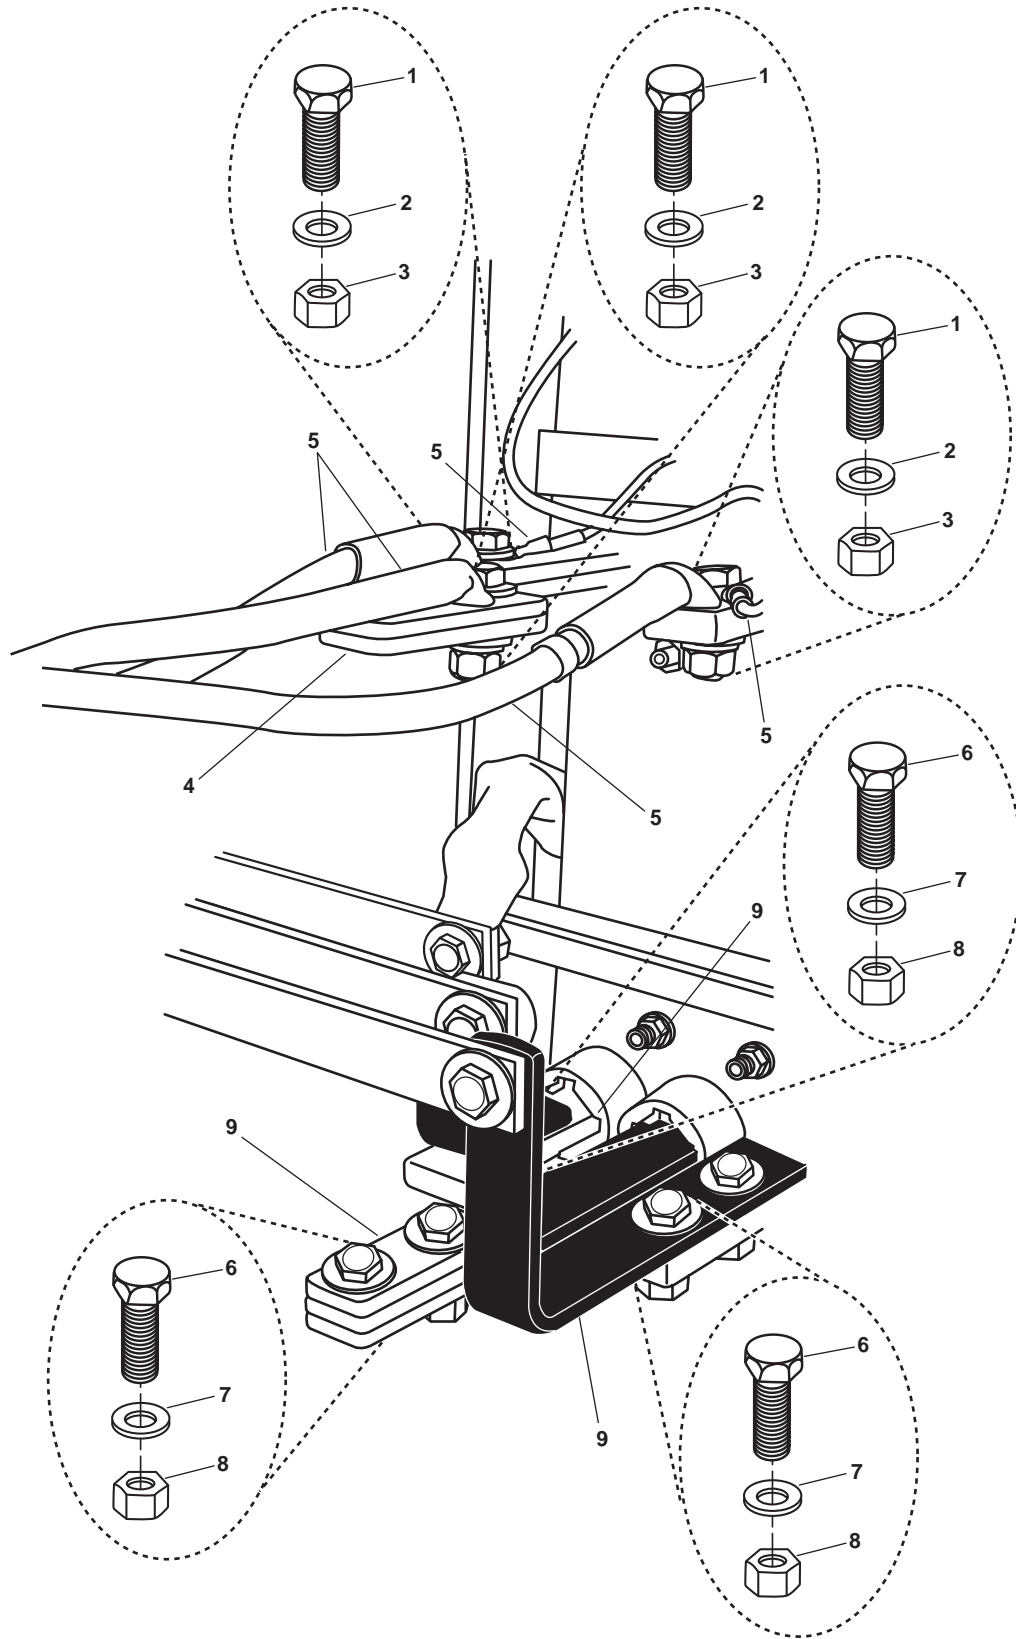

Figure 3. Bus Tie Circuit Breaker Bus Bar and Wire Connections
3. Remove the three bolts (figure 3, item 1), the six flat washers (figure 3, item 2) and the three nuts (figure 3, item 3) from the bus terminals (figure 3, item 4).
4. Label and remove the wiring (figure 3, item 5) from the bus terminals (figure 3, item 4).
5. Remove the five bolts (figure 3, item 6), the 10 flat washers (figure 3, item 7), and the five nuts (figure 3, item 8) from the bus bar (figure 3, item 9).
3. Install the five bolts (figure 3, item 6), the 10 flat washers (figure 3, item 7), and the five nuts (figure 3, item 8) in the bus bar (figure 3, item 9).
4. Connect the wiring (figure 3, item 5) to the bus terminals (figure 3, item 4) using the labels from step 4 of Removal as a guide and secure it with the three bolts (figure 3, item 1), the six flat washers (figure 3, item 2) and three nuts (figure 3, item 3). Remove the labels.